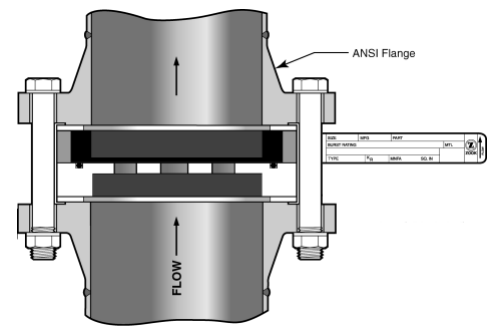

Figure 6
3) Rupture disks with External Vacuum Supports – Figure 6